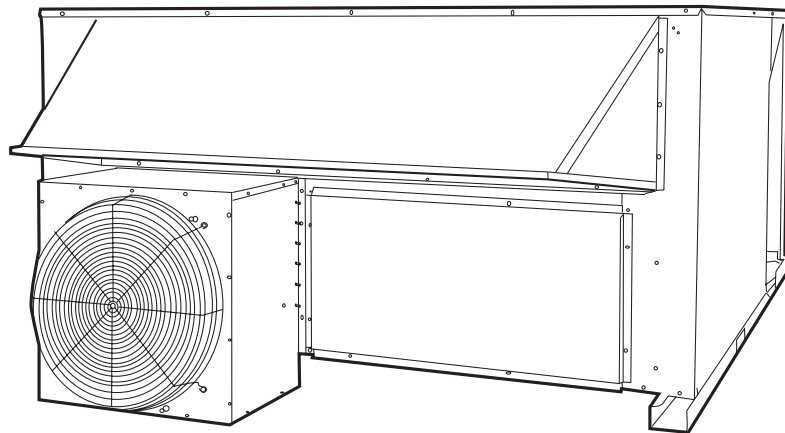

Fig. 5 — Base Unit with Relief Damper Assembly Installed
4. Using no. 10AB x ½ in. screws, fasten relief damper assembly to unit (Fig. 5).